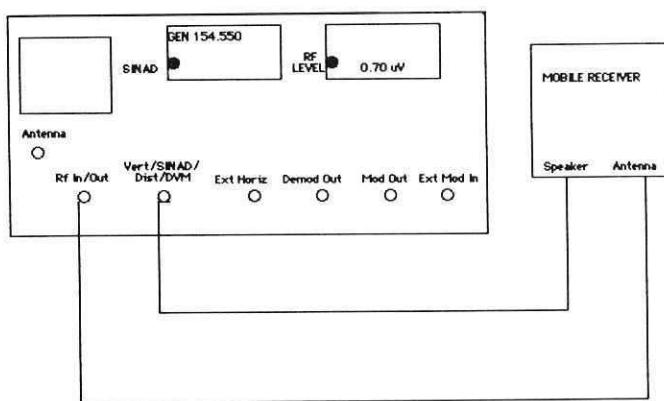

FIGURE 5.2—SINAD/20 dB QUIETING TEST SETUP AND DISPLAY
1. As shown on figure 5.2, connect the Monitor's "RF In/Out" to the antenna connector of the receiver under test. Connect the service monitor's "Vert/Sinad/Dist" to the receiver's audio output. Disable all PL's and open the Squelch.
1. Connect the service monitor to the receiver under test, as shown in Figure 5.2. Set the left LCD to "DVM", "Function" switch to "Gen" and select "FM" or "CW" mode. Press "Gen On/Off" to disable the generate function, indicated by the flashing "Gen" indicator on the left display.
1. Connect the service monitor to the receiver under test, as shown in figure 5.2. Set the "Function" switch to "Gen" and modulation to "FM". Enter the frequency of the receiver under test.
1. Referring to figure 5.2, set "Function" switch to "Gen" and modulation to "FM". Enter the RF frequency and PL code.
1. Perform the 12 dB SINAD Sensitivity test with the service monitor in the same set-up as shown in figure 5.2.